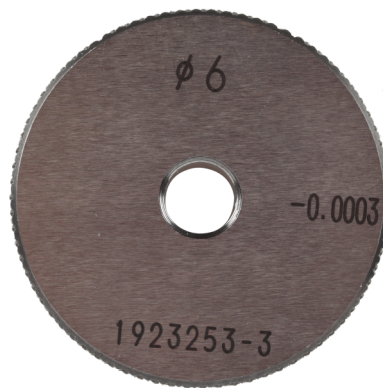

Figure 22: 6-mm master ring gage.
16. Locate the 6-mm master ring gage provided with the learning system, shown in Figure 22.